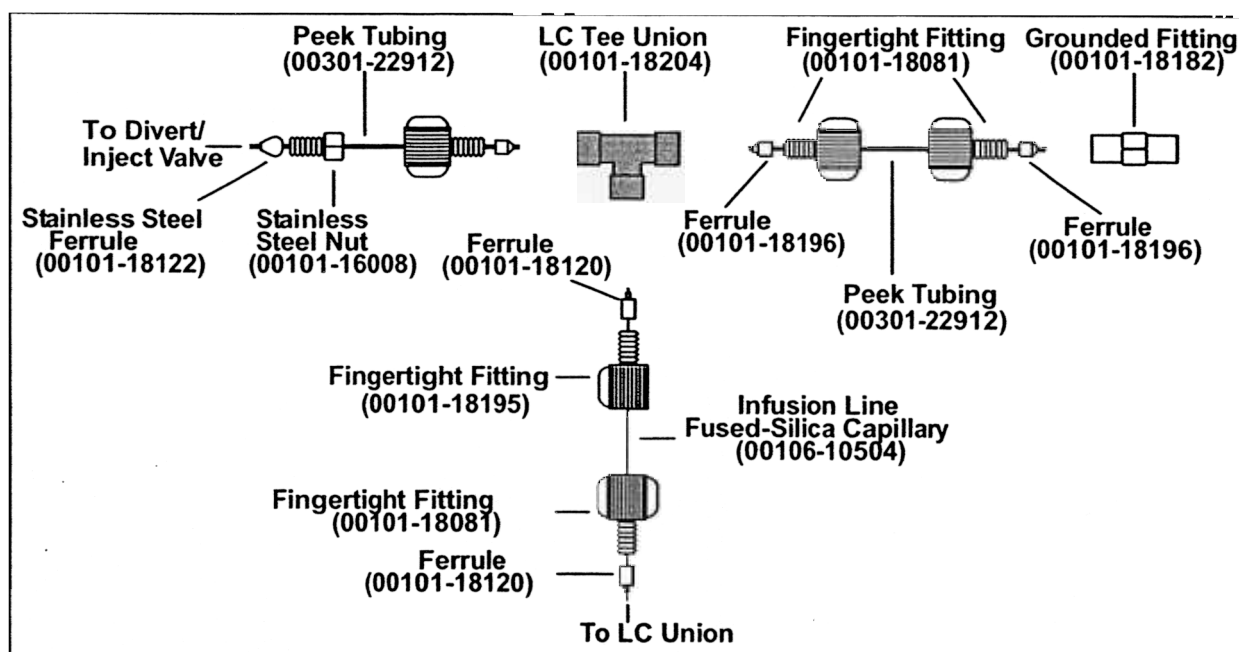

Figure 4-2. ESI/MS plumbing connections for the LC Tee union
6. Connect the fused-silica infusion line from the (black) LC union to the (black) LC Tee union, as follows. See Figure 4-2.
7. Connect an appropriate length of (red) PEEK tubing from the (stainless steel) grounded fitting to the (black) LC Tee union, as follows. (See Figure 4-2.)